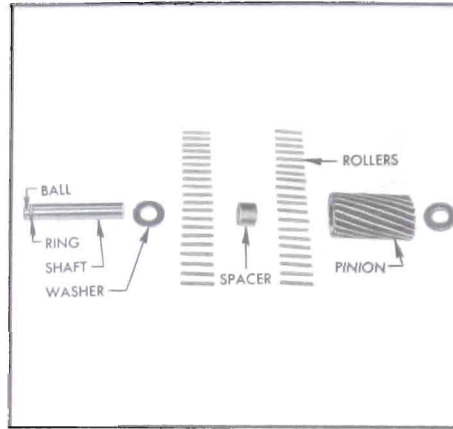

Figure 5-104—Low Planet Pinion, Disassembled
8. Remove the thrust washers and shafts from pinions, then remove the bearing rollers. Note that the reverse planet pinions have a single set of rollers and the low planet pinions have two sets of rollers separated by a spacer. See Figure 5-104.
1. Reassemble planet pinions and shafts with bearing rollers and thrust washers. The bottom thrust washer goes between retaining ring on shaft and the end of pinion. Each reverse planet pinion contains 24 rollers. Each low planet pinion contains 20 rollers at each end separated by a spacer. See Figure 5-104. Place a thrust washer on upper end of each assembly to hold rollers in place.